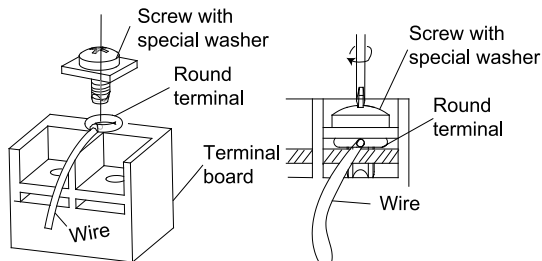

Fig.36
- 4). Position the round terminal wire, and replace and tighten the terminal screw with a screwdriver.(Fig.36)